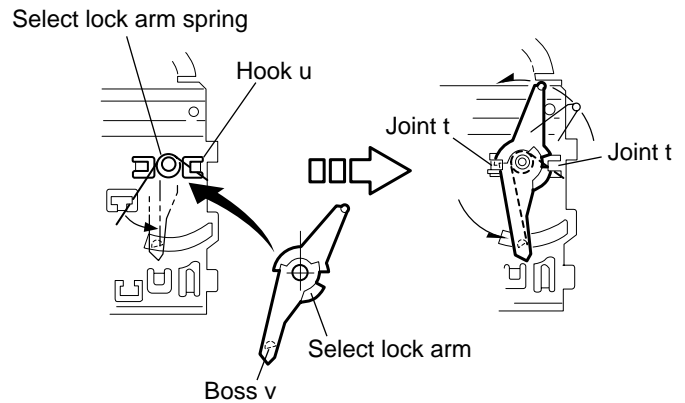

Fig.23
**■ Reassembling the select arm (L) / select lock arm (See Fig.23 to 25)**